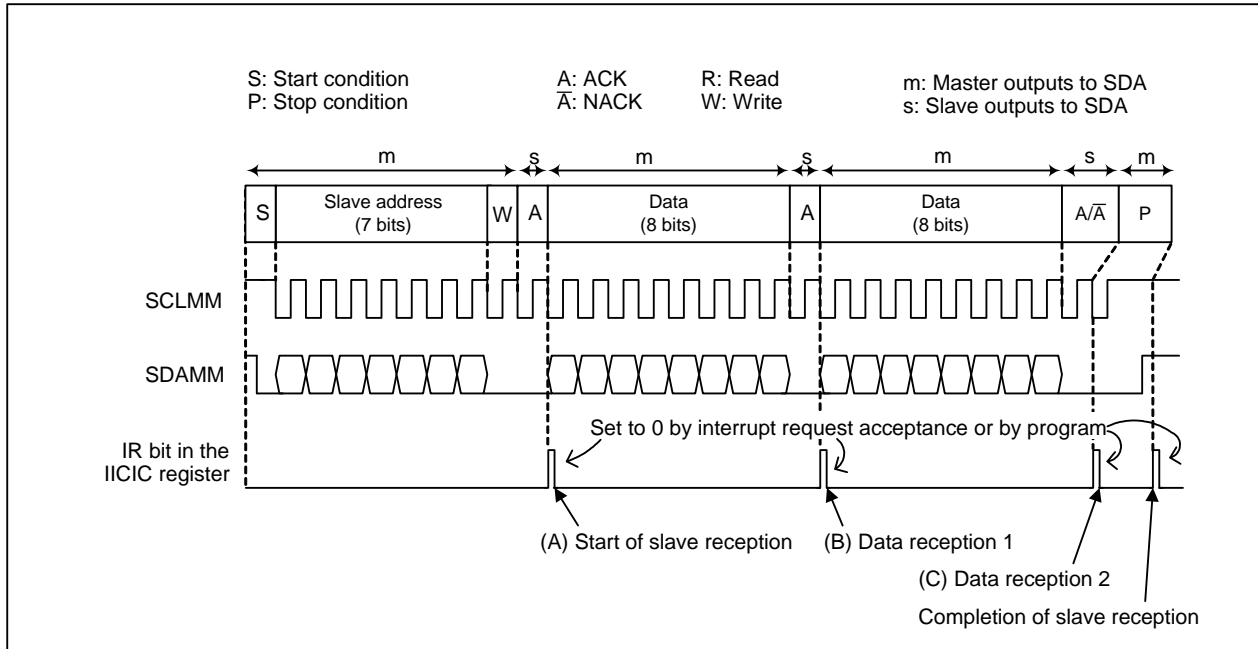

Figure 25.19 Example of Slave Reception
- (1) Read the received data from the S00 register.
- (2) Write C0h to the S10 register (stop condition standby state).
- (3) Write dummy data to the S00 register (stop condition generated).
The slave reception is described in this section. The initial settings described in 25.3.10.1 “Initial Settings” are assumed to be completed. Figure 25.19 shows the example of slave reception. The following programs (A) to (C) are executed at (A) to (C) in Figure 25.19, respectively.